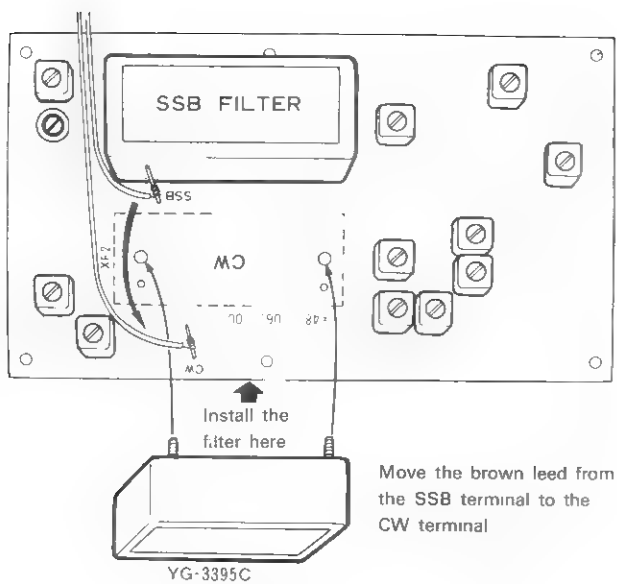

Fig. 30 Installing the Accessory CW Filter
■ INSTALLING THE CW FILTER (See Figure 30)
Remove the top and bottom covers from the transceiver (be careful of the speaker leads). Locate the IF board (it holds the SSB crystal filter) and move the brown wire from the SSB terminal to the CW terminal, as shown in Figure 30